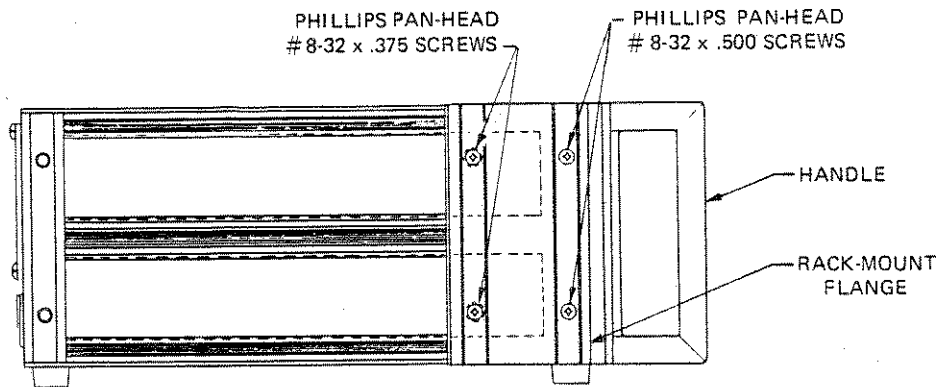

Figure 2-11 - 1250 Side View (Left)
2.8.1 Standard Mounting - refer to Figures 2-11 and 2-12 and complete steps a-e to install the Option 90 on the front of the 1250.
- a. Refer to Figure 2-11. Remove the two phillips panhead #8-32 x 3/8 screws and two phillips panhead #8-32 x 1/2 screws from each side of the 1250